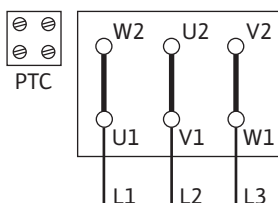

Fig. 12: Δ connection
- The mains connection is dependent on the motor power P2, mains voltage and activation type. Refer to the following table and Fig. 12, 13 and 14 for the required connection of the connecting bridges in the terminal box.